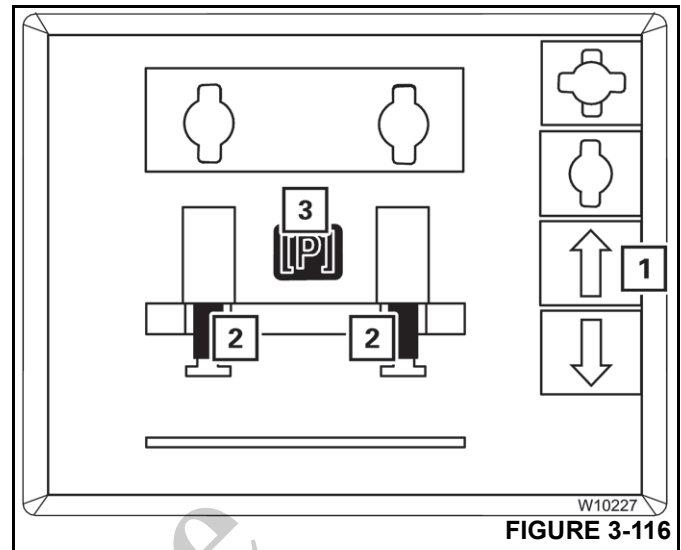

FIGURE 3-116
1. Press the F7 button (1) (Figure 3-116).
2. The lifting cylinders (2) retract.